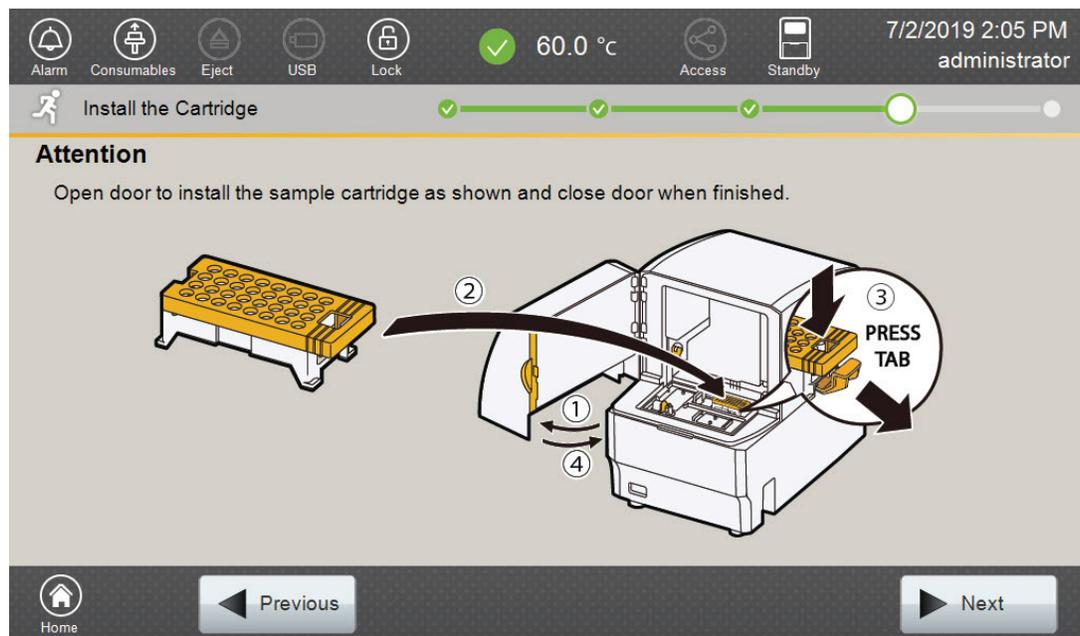

Figure 19. 'Install the Cartridge' screen.
2. Open the instrument door, and then place the sample cartridge on the autosampler, following the instructions displayed on the 'Install the Cartridge' screen (Figure 19). Press down on the yellow tab on the autosampler deck that locks the sample cartridge in place before placing sample cartridge into position. Release the tab to lock the sample cartridge in place on the autosampler deck.